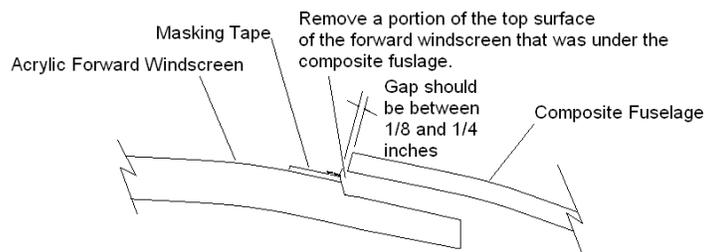

Figure 56-18 Forward Windscreen Showing the Area Under the Edge of The Fuselage of the Top Surface Removed
9. Use a die grinder, fitted with an appropriate bit, to grind away the top surface of the forward windscreen that was under the edge of the composite fuselage. See Figure 56-18 for details.